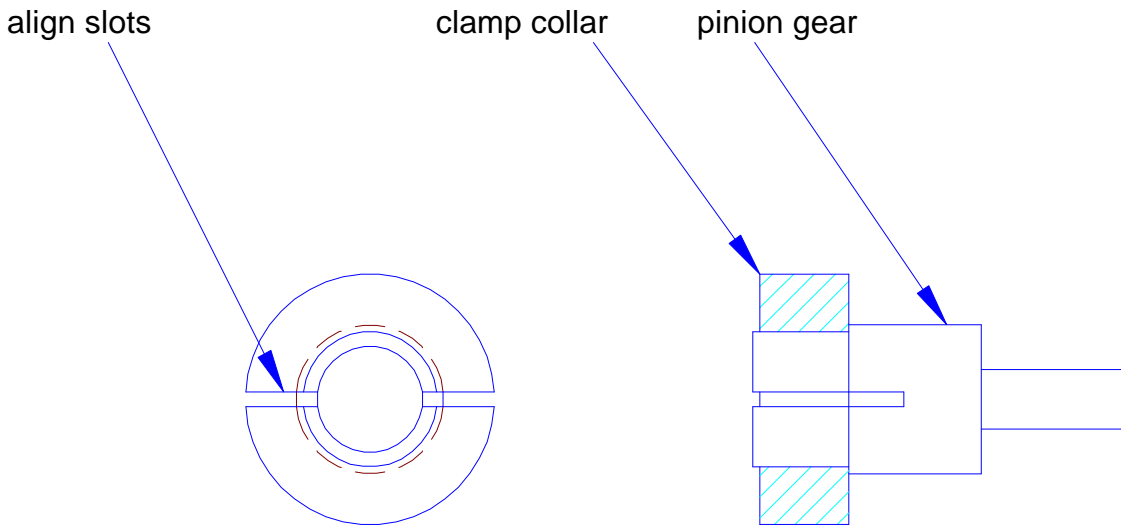

figure 1
1. Slide the clamp collar onto the pinion gear up to the shoulder. Rotate the clamp collar so that the slots in the pinion gear line up with the slots in the collar. (figure 1, over)